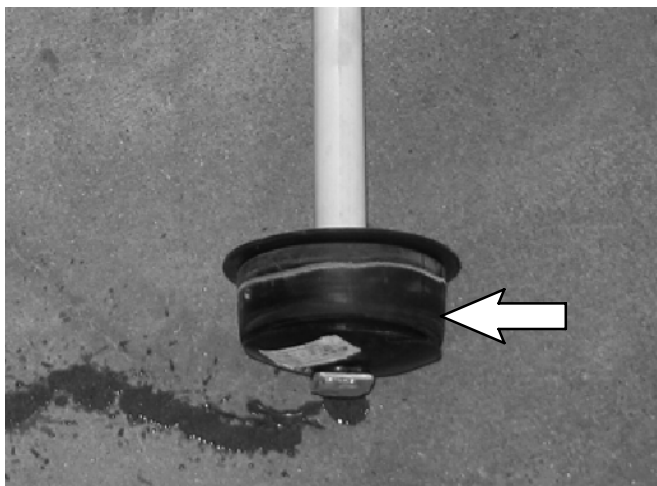

Fig. 1: Clean all dirt from the drain plug. The drain plug will not seat properly in the recovery tank drain hole if there is excessive dirt on the plug.
3. Remove the expandable drain plug from the recovery tank and clean the plug. Refer to Fig.1.